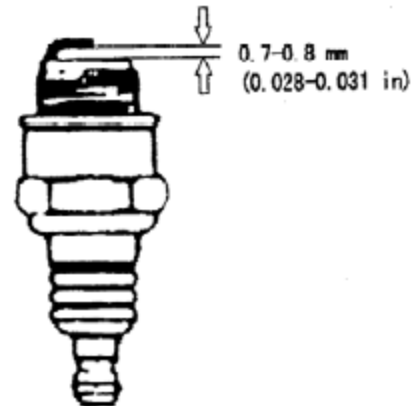

Figure 21- Measuring the spark plug gap
4. Measure the plug gap with a gauge (see figure 21). The gap should be 0.7-0.8 mm (0.028—0.031 in).